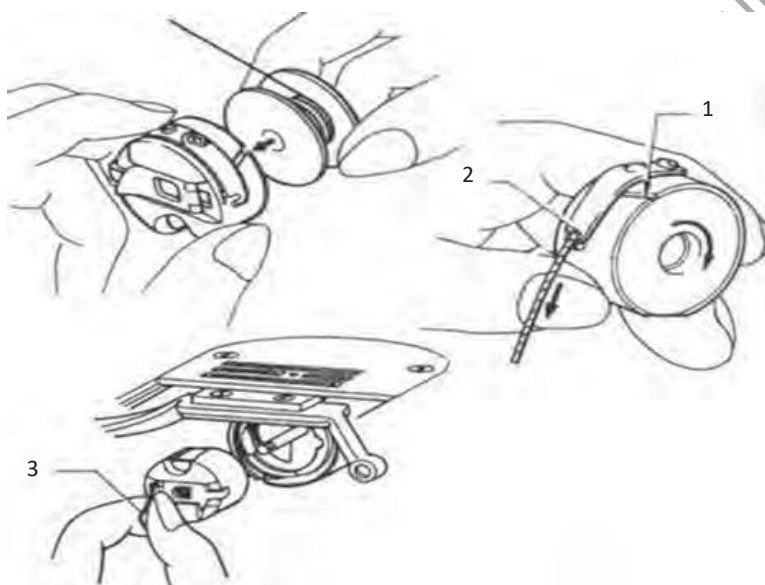

Fig. 2.49: Threading the lower thread
2. Pass the thread through a small notch at the front of the bobbin case and then pull the thread out, as shown Fig. 2.49 Label: 1 and 2
5. Hold the latch of the bobbin case and fix into the rotary hook (Fig. 2.49 Label:3).